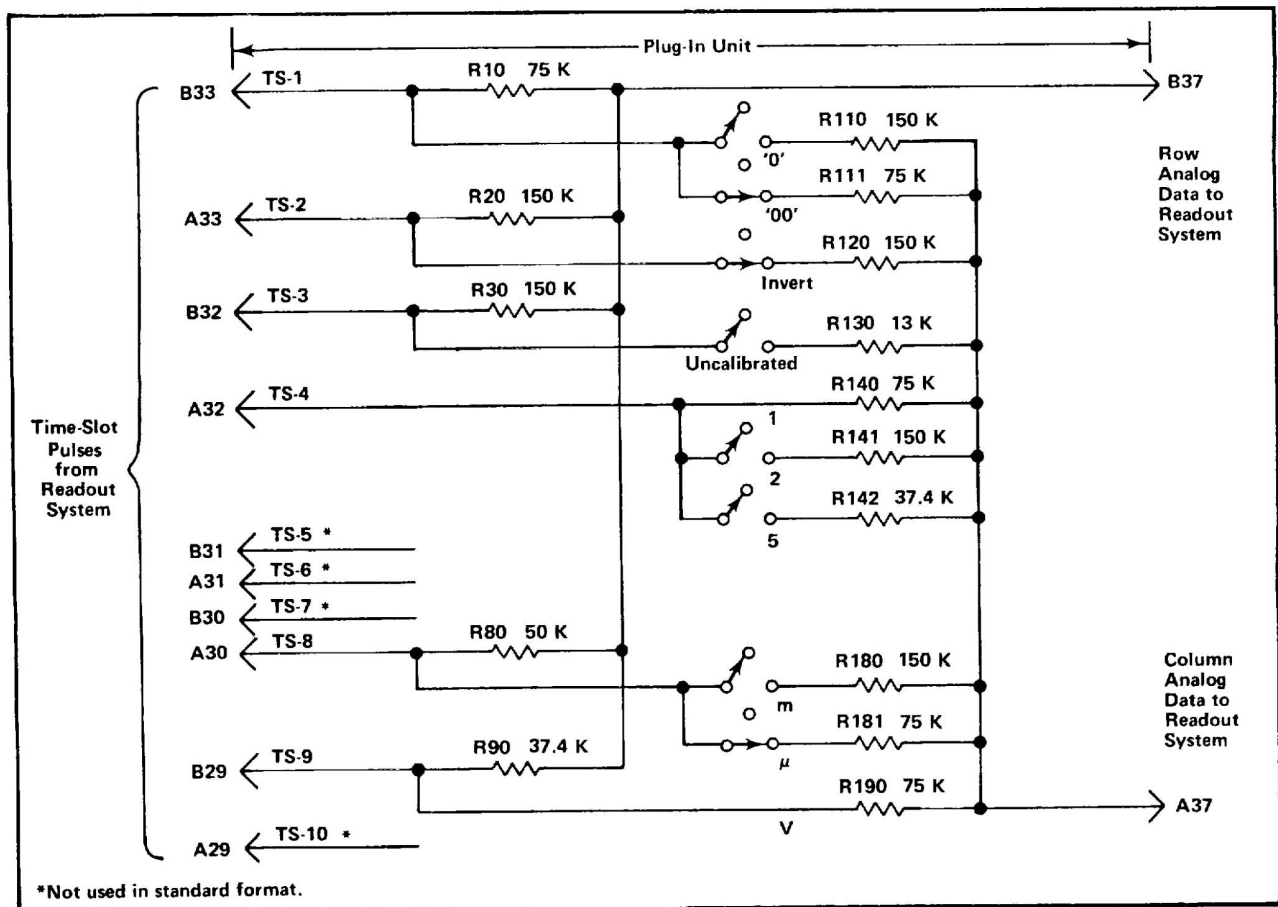

Fig. 3-45. Typical encoding scheme for voltage-sensing plug-in unit. Coding shown for deflection factor of 100 microvolts.
Data is conveyed from the plug-in units to the Readout System in the form of an analog code having up to 11 current levels (from zero to one milliampere in 100 microampere steps). The characters which can be selected by the encoded data are shown on the Character Selection Matrix (see Fig. 3-38). Each character requires two currents to define it; these currents are identified as the column current and the row current which correspond to the column and row of the matrix. The column and row data is encoded by resistive programming in the plug-in units. Fig 3-45 shows a typical encoding scheme for a voltage-sensing amplifier plug-in unit. Notice that the 10 time-slot (TS) pulses produced by the Time-Slot Counter stage are connected to the plug-in unit. However, time-slots 5, 6, 7, and 10 are not used by the plug-in unit to encode data when using the Standard Readout Format (see Table 3-2 for Standard Readout Format) The amplitude of the time-slot pulses is
For example, in Fig. 3-45 resistors R10 through R90 control the row analog data which is connected back to the Readout System. These resistors are of fixed value and define the format in which the information will be presented by the Readout System. Fig. 3-46A shows an idealized output current waveform of row analog data which results from the 10 time-slot pulses. Each of the steps of current shown in these waveforms corresponds to 100 microamperes of current. The row numbers on the left-hand side of the waveform correspond to the rows in the Character Selection Matrix shown in Fig. 3-38. The row analog data is connected back to the Readout System via terminal B37 of the plug-in interface.
time-slot lines by switch closures to encode the desired data. The data as encoded by the circuit shown in Fig. 3-45 (A)
only). The probe contains a resistor which results in additional column current. For example, if a 10X attenuator probe is connected to a plug-in with the coding for 100 microvolts as shown in Fig. 3-45, an additional unit of current is added to the column analog data during time-slot 1. Since two units of current were encoded by R 111 (see Fig. 3-45), this additional current results in a total of three units of column analog current during this time-slot. Referring to the Character Selection Matrix, three units of column analog current during this time-slot. Referring to the Character Selection Matrix, three units of column current along with the two units of row current encoded by R10 indicates that the prefix should be reduced. Since this instruction occurs in the same time-slot which previously indicated that two zeros should be added to the display and only one instruction can be encoded during a time-slot, the zeros do not appear in the display. The CRT readout will now be changed to 1 mV (readout program produced by plug-in same as for previous example).
Character Selection Matrix of Fig. 3-38 that a reduction of one column when row 4 is programmed results in a one unit reduction of the prefix. For example, with the 100  $\mu$ V program shown in Fig. 3-45, if the data received from the plug-in called for a reduction in prefix, the CRT readout would be changed to 1 mV (zeros deleted by program; see Encoding the Data).